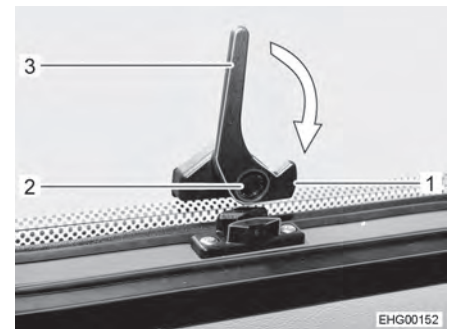

Fig. 41 Catch lever, at the bottom ("open" position)
- Press and hold the safety knob (Fig. 41,2) on the bottom catch lever (Fig. 41,3).
- Turn the bottom catch lever (Fig. 41,3) a quarter turn towards the window frame until the locking catch (Fig. 41,1) engages.